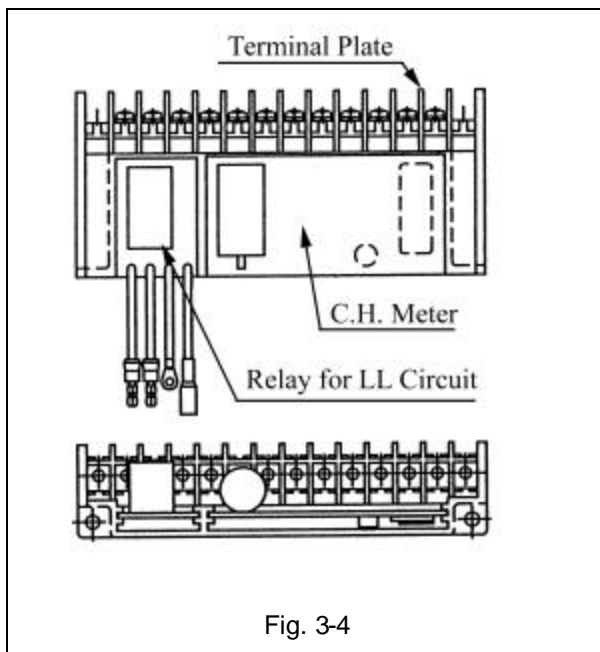

Fig. 3-4
- 1) Refer to Figure 3-4.
- 3) Insert the Load Limiter Relay into the available slot in the Terminal Plate as shown in Fig. 3-4 and reinstall the Terminal Plate.